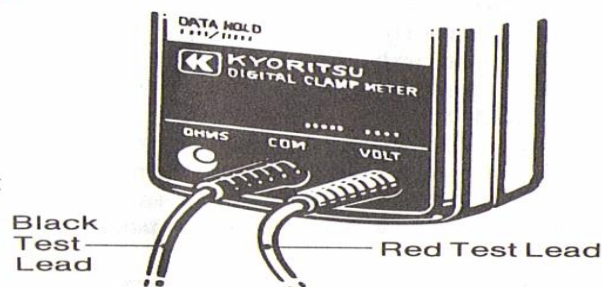

Fig. 2
- (1) Set the function/range switch to 200V or 750V position.
- (2) Insert the red test lead into the VOLT terminal of the instrument and the black test lead into the COM terminal. (Fig. 2)